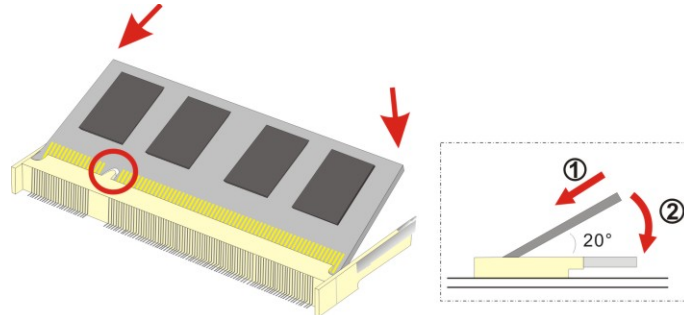

Figure 4-4: SO-DIMM Installation
To install a SO-DIMM, please follow the steps below and refer to **Figure 4-4**.
- Step 3:** Insert the SO-DIMM. Push the memory in at a 20° angle. (See **Figure 4-4**)
- Step 4:** Seat the SO-DIMM. Gently push downwards and the arms clip into place. (See **Figure 4-4**)